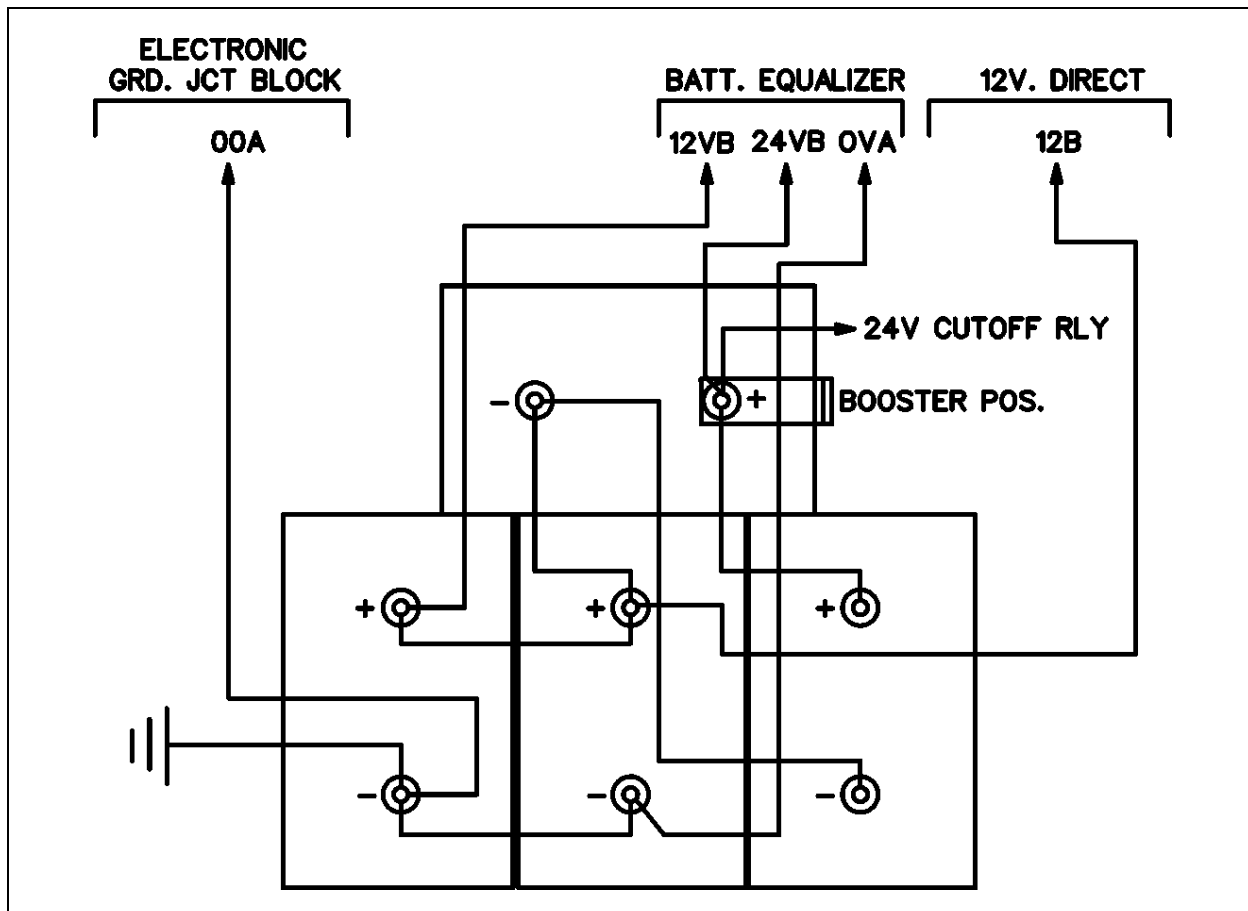

FIGURE 13: BATTERIES CONNECTIONS
The vehicle is provided with four (4) maintenance-free 12 volt heavy-duty batteries connected in series-parallel (Fig. 13). The top-mounted negative and positive terminals are tightly sealed to prevent leaks. Water never needs to be added to this type of battery. There are no filler caps in the cover. The battery is sealed, except for small vent holes in the cover. The vents must not be restricted as they allow small amounts of gases produced in the battery to escape. The special chemical composition inside the battery reduces gassing to a very small amount at normal charging voltages. Besides reducing gassing, the special chemistry greatly reduces the possibility of overcharge damage.
The batteries are located in the engine compartment R.H. side (Fig. 13).
The batteries are located in the engine compartment R.H. side area (Fig. 13).